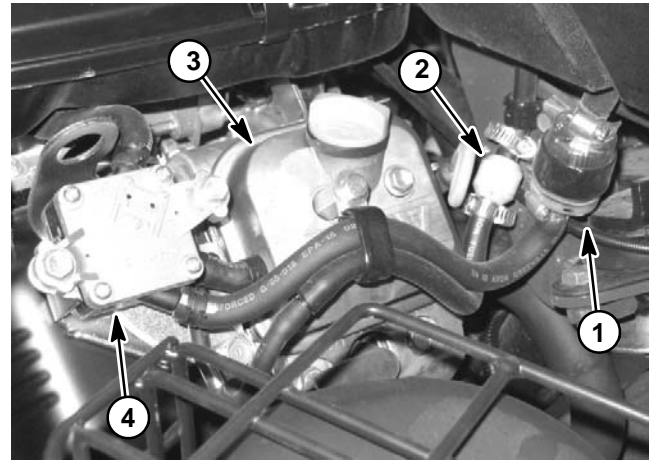

Figure 10
4. Disconnect fuel hoses from the fuel filter outlet and the check valve near rear engine cylinder head (Fig. 10). Drain any fuel trapped in the fuel filter and fuel hose into a suitable container.
11. Connect fuel hoses to the fuel filter outlet and check valve near rear engine cylinder head (Fig. 10). Secure hoses with hose clamps.